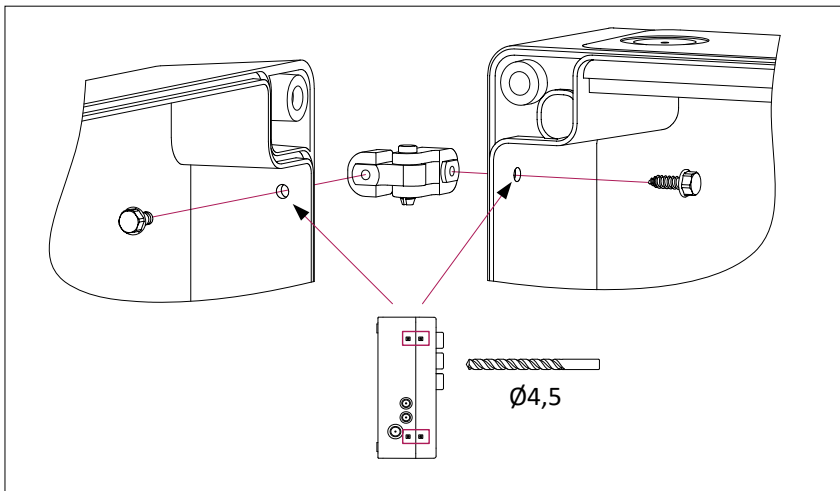

Figure 6
- Select the case cover opening direction and install hinges using the screws and wrench (**Figure 6**). Previously, carefully drill $\varnothing 4.5$ mm holes in the designated places of the case cover and base. The figure shows the installation of hinges on the left (opening the cover to the left).